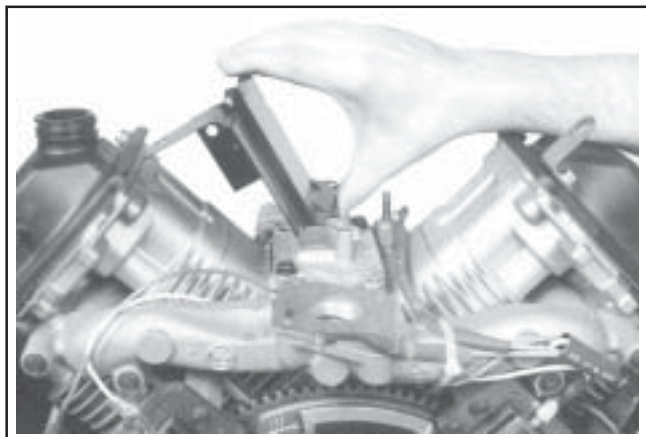

Figure 11-55. Installing Inner Baffles.
4. Install the inner baffles using the remaining two hex flange screws (see Figures 11-55 and 11-56) and finger tighten. **Do not** torque the screws at this time; they will be tightened after the blower housing and outer baffles are installed.